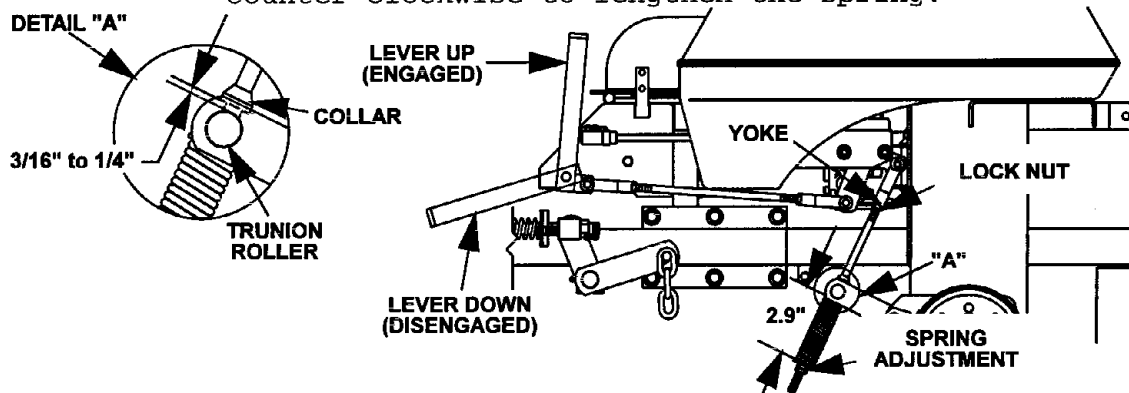

FIG. 10
- b) Measure the length of the spring. Measurement should be 2.9" between washers (see Fig 10).
- e) Measure the distance between the trunion roller and the collar (welded to rod). Measurement should be 3/16" to 1/4" (See Fig 10).
- f) If adjustment is necessary, loosen the nut directly below the yoke. Turn the bottom nut (below washer) until the correct measurement is obtained (See Fig 10) turn nut clockwise to lengthen the gap (screws rod into yoke) and turn counter-clockwise to shorten the gap (screws rod out of yoke). Tighten nut against yoke and check opposite side of unit, repeat if necessary.